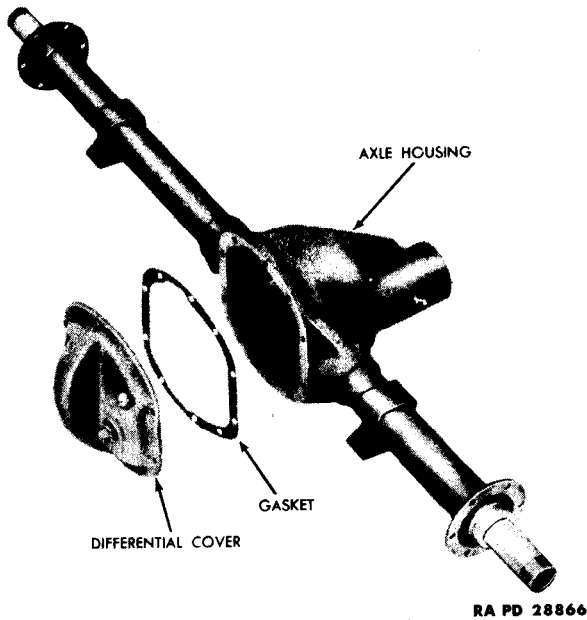

Figure 79 — Rear Axle Housing
(1) AXLE HOUSING AND COVER (fig. 79).